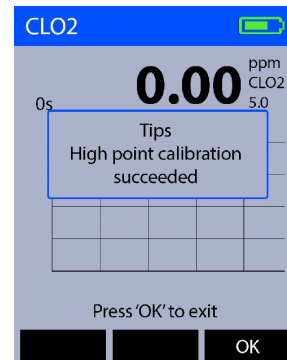

Figure 15.
8. The message “High point calibration succeeded” will appear on the display (Figure 15).